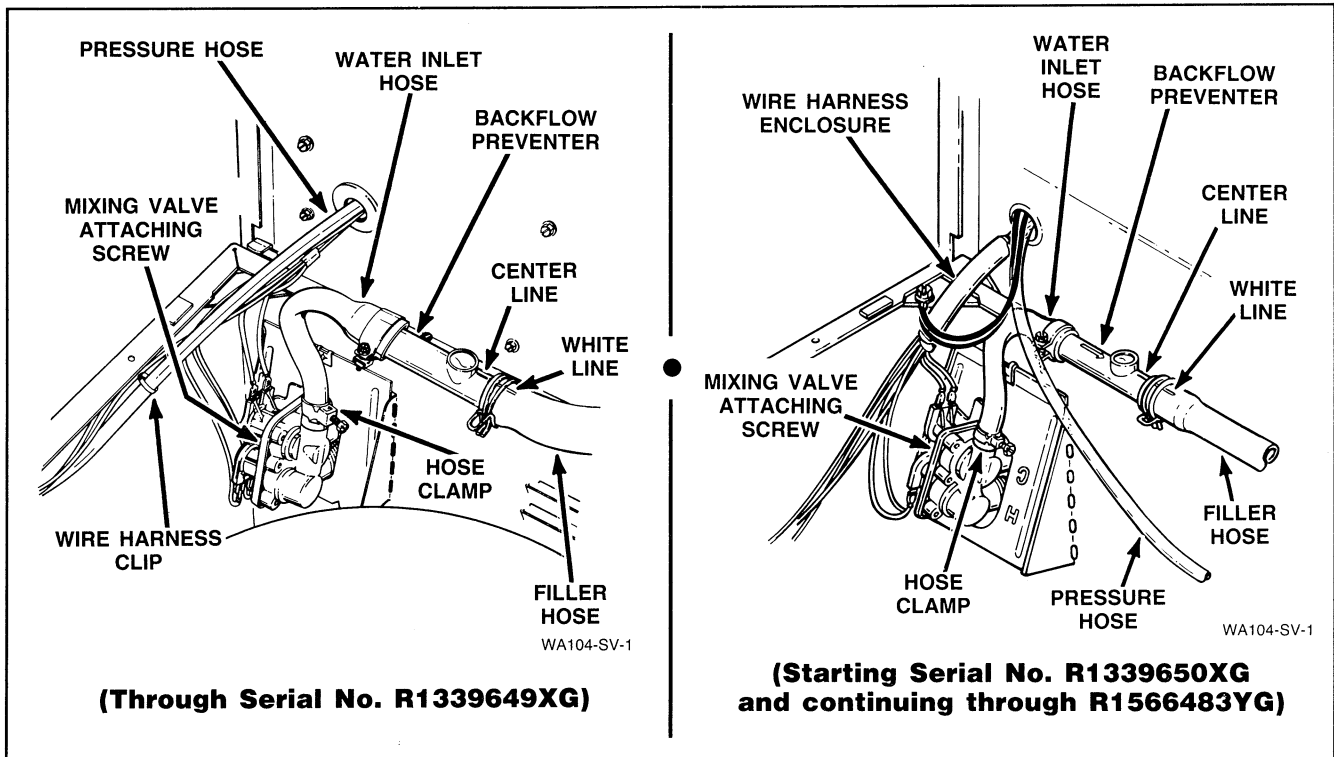
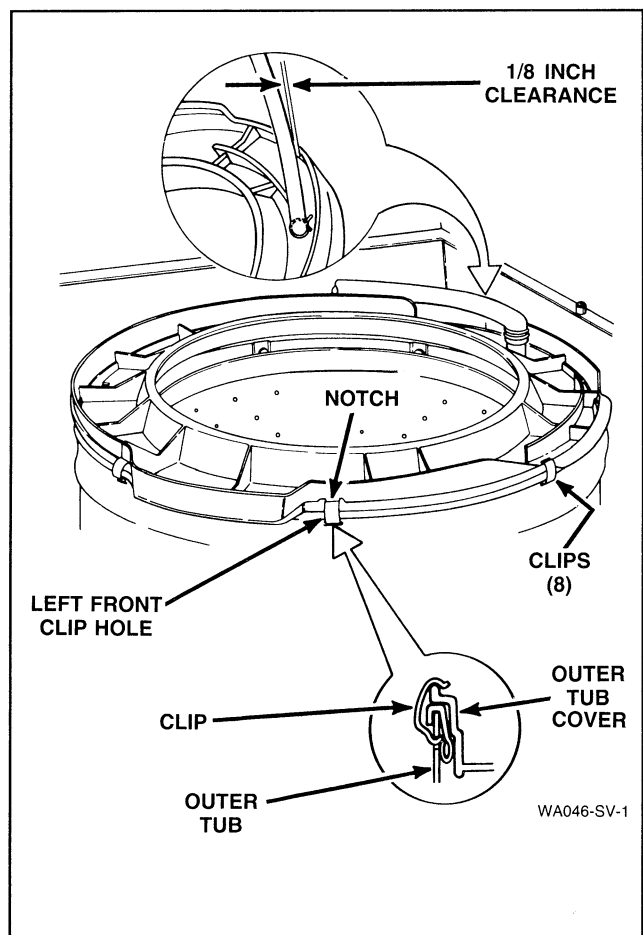

Figure 26
Figure 27
- b. Remove screw holding mixing valve to mounting bracket at rear of washer cabinet, *Figure 26*.
- c. Pull mixing valve out toward front of washer far enough to permit disconnecting water inlet hoses from mixing valve, *Figure 26*.
- Disconnect filler hose from backflow preventer, *Figure 26*.
NOTE: When installing filler hose, white line on hose must be aligned with center line of backflow preventer, *Figure 26*. A 1/8 inch clearance is necessary to prevent the hose from rubbing on the flange of the tub cover, *Figure 27*. Loosen hose clamp and move hose to obtain the proper clearance.
- Remove eight clips holding outer tub cover to tub, *Figure 27*, lift cover off tub and set beside washer cabinet.
NOTE: When installing outer tub cover, always use a new cover gasket. Lubricate the gasket with liquid soap to aid in assembly. Cover must be placed on outer tub so notch on top edge of outer tub cover is directly over left front clip hole in tub, *Figure 27*. Starting with this hole, place each spring clip in its respective hole and snap in place. See *Figure 27* for proper clip installation.
- Disconnect filler hose from backflow preventer, then remove the eight clips holding cover to outer tub, *Figure 27*.
NOTE: When reinstalling filler hose, white line on hose must be aligned with center line of backflow preventer, *Figure 26*. A 1/8 inch clearance is necessary to prevent the hose from rubbing on the flange of the tub cover, *Figure 27*. Loosen hose clamp and move hose to obtain the proper clearance.
NOTE: When installing outer tub cover, lubricate the cover gasket with liquid soap to aid assembly. Cover must be placed on outer tub so notch on top edge of outer tub cover is directly over left front clip hole in tub, *Figure 27*. Starting with this hole, place each spring clip in its respective hole and snap into place, refer to *Figure 27* for proper clip installation.
NOTE: When reinstalling the filler hose, the white line on the hose must be aligned with the center of the backflow preventer, *Figure 26*. A 1/8 inch clearance is necessary to prevent the hose from rubbing on the flange of the tub cover, *Figure 27*. Loosen hose clamp and move hose to obtain the proper clearance.